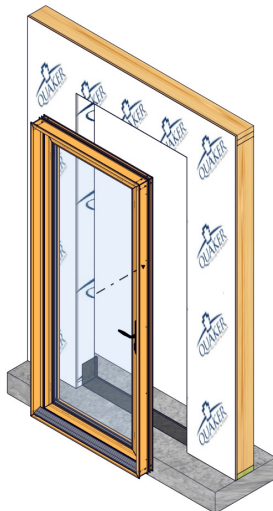

Fig. 4
1. Center and set the door frame into the rough opening. (Fig. 4)